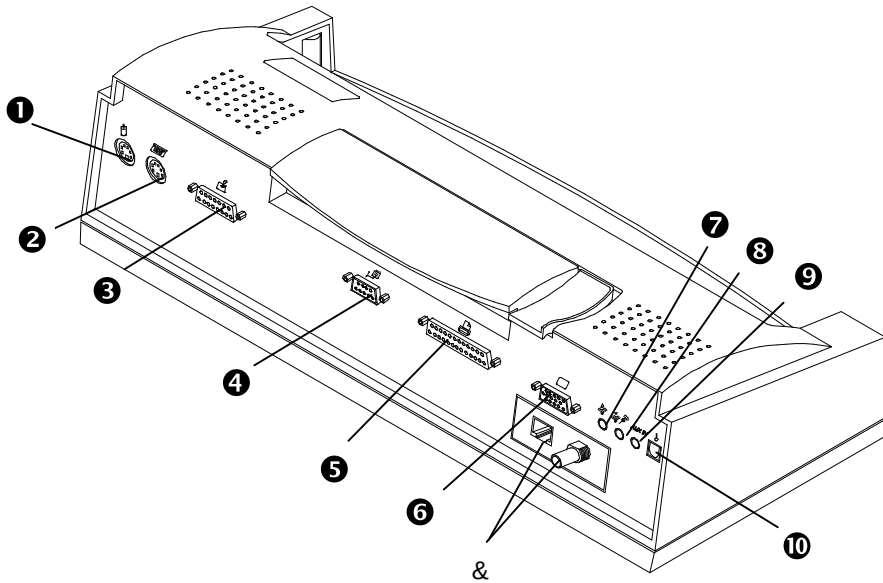
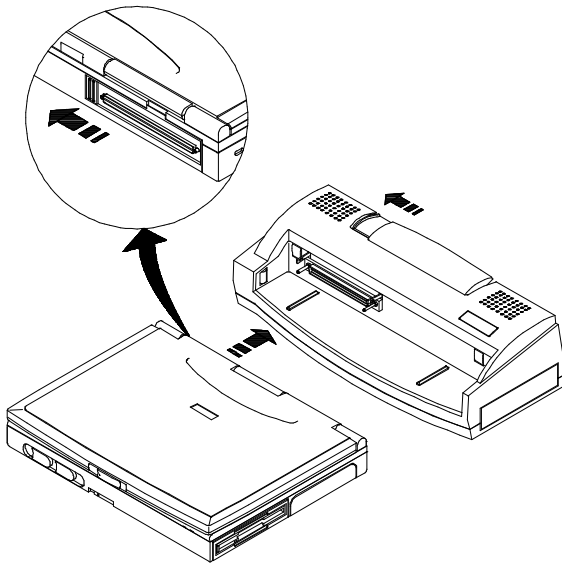

Figure 6-12: The Port Replicator's Ports
Figure 6-13: Connecting the Notebook to the Port Replicator
Figures 6-12 displays the rear side of the Port Replicator and labels the locations of the serial and peripheral device ports. **Figure 6-13** pictures the notebook's Port Replicator station being properly aligned with the notebook's I/O port.
The AC adapter port and all peripheral ports are located on the rear side of the Port Replicator. Please see **Figure 6-12** for a complete port layout. The Port Replicator supports hot-plug connections. This means that you can connect peripheral devices to the Port Replicator without having to turn off the power. You'll want to place the Port Replicator flat on a desk near a wall outlet or an extension cord with a built-in circuit breaker.
2. Locate the MIDI port on the back of your PC. It is on the rear side of the Port Replicator, the third port from the left. Please refer to **Figure 6-12** if you are having trouble locating this port.
1. Locate the VGA port on the back of your Replicator Please refer to **Figure 6-12** if you are having trouble locating this port.
1. Locate the serial port on the back of your Port Replicator. Please refer to **Figure 6-12** if you are having trouble locating this port.
2. Locate the audio-in port on the rear side of the Replicator. Please refer to **Figure 6-12** if you are having trouble locating this port.
2. The microphone port is round and is located directly to the left of the audio-in port. Please see **Figure 6-12**. Beyond this variance, connection of a microphone is exactly the same as connecting a audio-in unit to the Port Replicator.
2. The Audio-out port is round and is located directly to the left of the microphone port. Please see **Figure 6-12** if you are having trouble locating this port.
You may want to refer to **Figure 6-12** and **Figure 6-13** as you read these instructions for a visual guide to connecting the notebook to the Port Replicator.
4. Locate the replicator's 240-pin port. It is found on the front left side of the Port Replicator. Please refer to **Figure 6-13** if you are having trouble locating this port. The rear of the Replicator is designed for peripheral connections.
7. Slide the long rectangular-shaped Release latch in the direction of the arrow shown in **Figure 6-13**. This will unlock the latch allowing the notebook to be connected to the port.